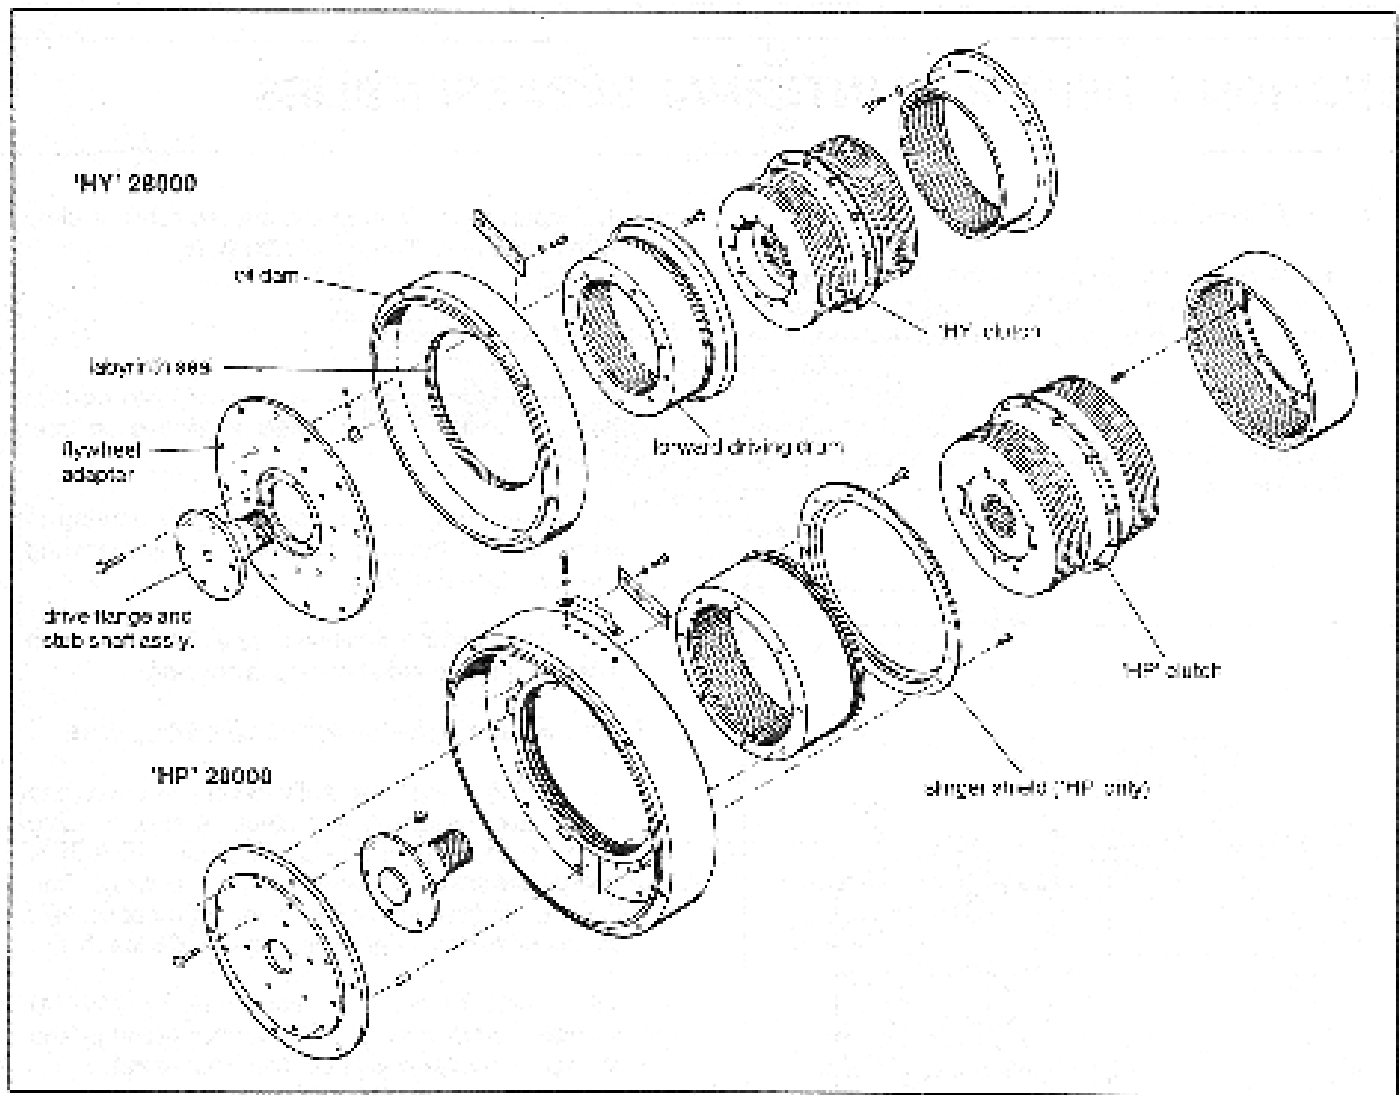

Fig. 35. Adapter Group and Clutch
2. Remove oil dam and inspect labyrinth oil seal on inside diameter. Repair or replace as necessary (wear or damage to seal indicates misalignment-check further!) (see fig 35).